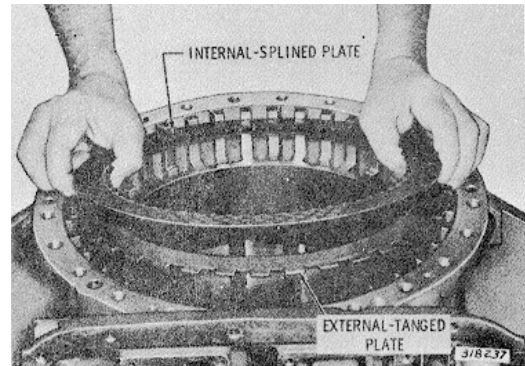

Fig. 7-8. Installing first clutch plates
(1) Place the transmission housing in a vertical position, rear end upward (Fig. 7-8).
(2) Beginning with an external-tanged clutch plate, alternately installs even external-tanged, and six internal-splined first clutch plates (Fig. 7-8).
(3) Install the adapter housing assembly (as assembled in para 6-25) and gasket.